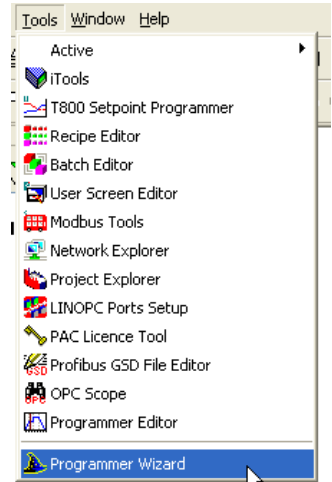

Figure 10 Tools menu
1. With LINtools running, click on the Tools menu, then on 'Programmer wizard' (figure 10, above).